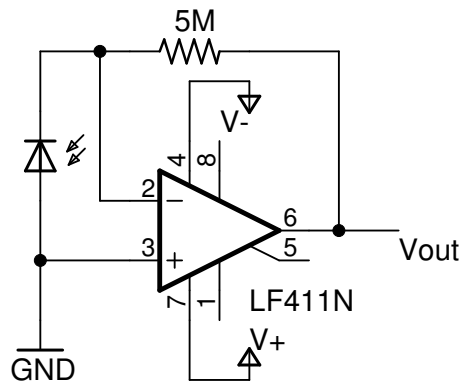

Figure 2: Transimpedance Amplifier. Use an LF411 or TL061 op-amp.
1. Build a light sensor with a PIN photodiode and the transimpedance amplifier circuit shown in figure 2. Don't be shy about asking for help from your instructor on this part; it uses things you'll learn later in the course. For now treat this op-amp circuit as magic and don't worry too much about how it works. Connect the output of this circuit to an unused AI connection on the ELVIS II board.